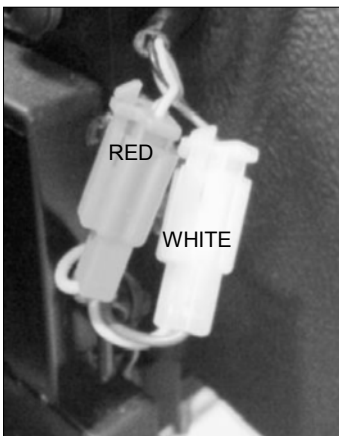

FIGURE 3
**Step #3)** Plug the two (2) wire connectors together (LE version only). They are located near the back of the chair. Connect both white connectors together and both red connectors together. (See Figure 3)